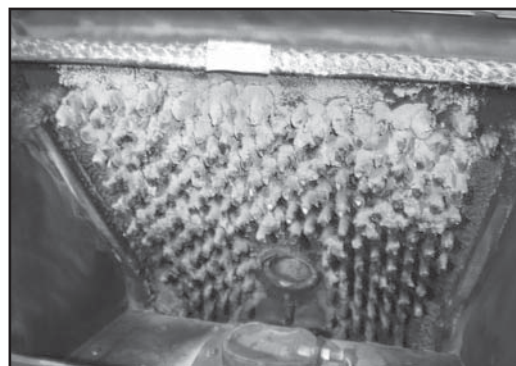

Figure 17.2 - Example of a dirty heat exchanger
- a. It is necessary to remove the baffle to gain access to the heat exchanger (figure 17.2). Follow instructions for baffle removal on **page 20, figure 20.2**.
- d. Use the crevice tool to finish cleaning the heat exchanger fins. It is critical that the 2 exhaust exits at the back of the firebox floor (left and right) be thoroughly cleaned. **Figure 17.2** There are several ways this can be done: